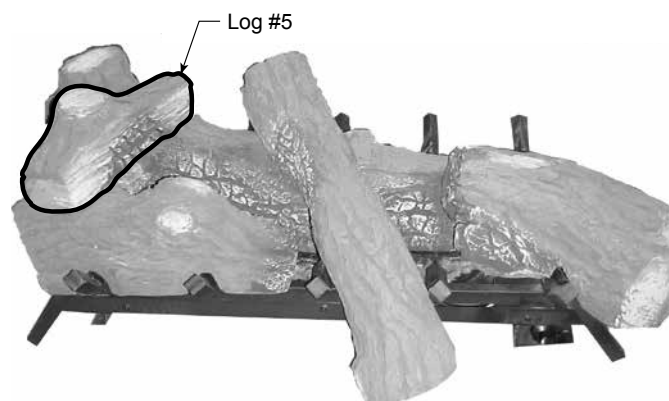

Figure 5.5 - Place Log #5
5. Place log #5 by placing rectangular notch on bottom of log onto matching rectangular protrusion on log #2. Make sure ember or 'burnt' portion of log is facing center of burner. *Figure 5.5*